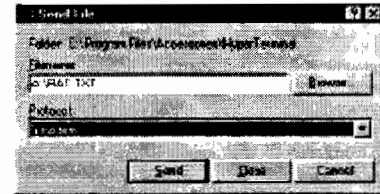

Figure 4 – Send File Dialogue Box
- i. On Computer 1: Select *Transfer* menu -> *Send File* (or try right-clicking in the HyperTerminal window). Insert the disk into the A: drive and enter *Filename: A:\RAT.TXT* Select *Protocol: Ymodem* (See figure 4). Press *Send*.